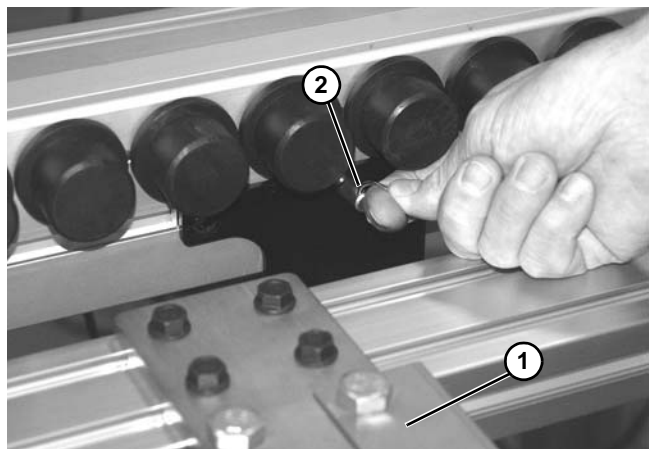

Figure 35
2. Raise lift and transfer station (**Figure 35, item 1**) into position from under the conveyor, lining up center pin (**Figure 35, item 2**) in slotted channel of conveyor channel. Repeat on opposite side.